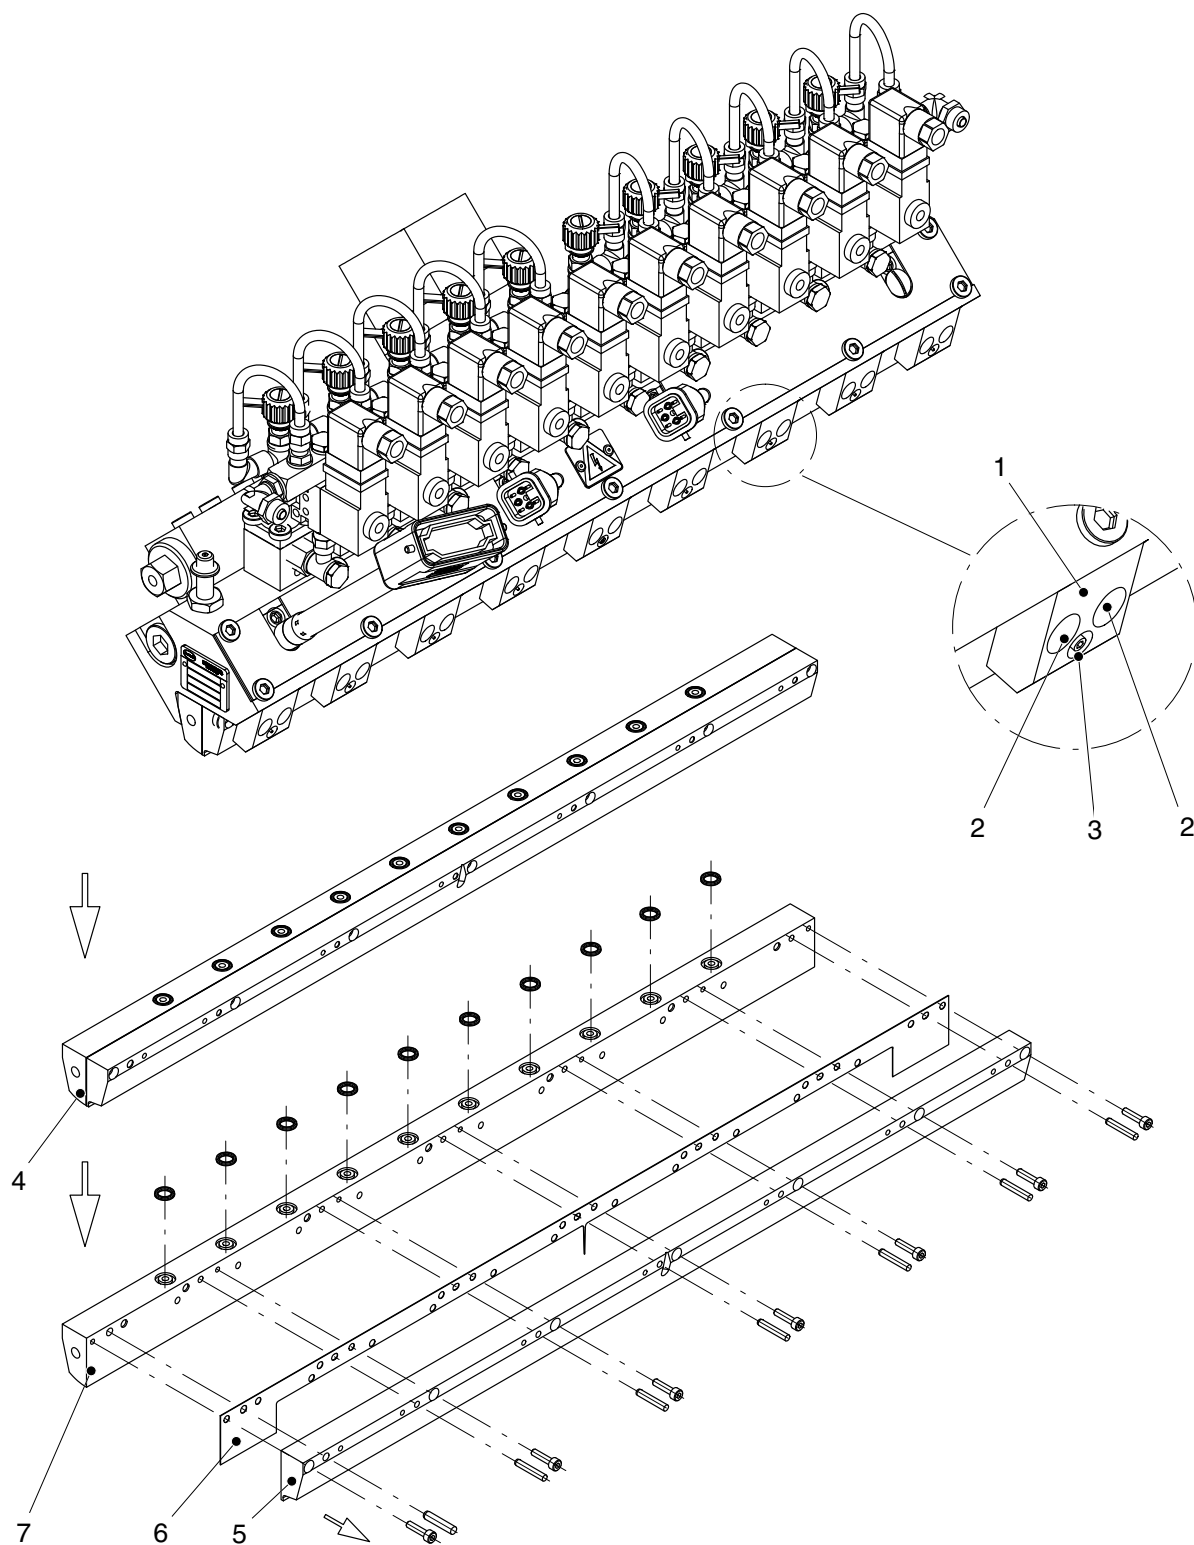

Fig. 5-2
2. Before releasing the clamping screws, ensure that the nozzle (4 , Fig. 5-2) can not fall off.
3. Release all clamping screws (3 , Fig. 5-2). Now the nozzle can be extracted out the side. If there is not enough space to the side of the applicator: Unscrew all of the clamps (1 , Fig. 5) and extract the nozzle out the front of the unit.
5. Reduce the nozzle to the individual components: mouthpiece receptacle (7 , Fig. 5-2), mouthpiece (5 , Fig. 5-2) and shim plate (6 , Fig. 5-2).